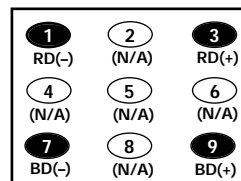

Figure 5. Remote Control Number keys' functions in Service Menu NO. 55 DRV
12. Adjust Red and Blue Drive Levels alternately with 1, 3, 7, or 9 key to produce normal black and white picture in highlight areas. (See Figure 5.)